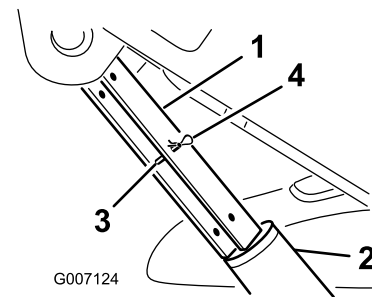

Figure 32
5. Place the cylinder lock over the cylinder rod and secure it with the clevis pin and hairpin cotter (Figure 32).